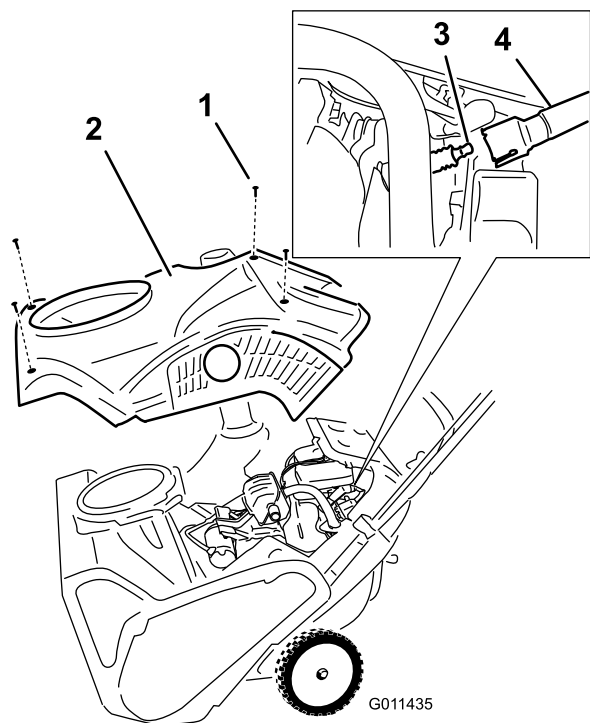

Figure 35
2. Large screws (3)
- Remove the 4 screws that secure the shroud (Figure 35).
- Remove the shroud (Figure 35).